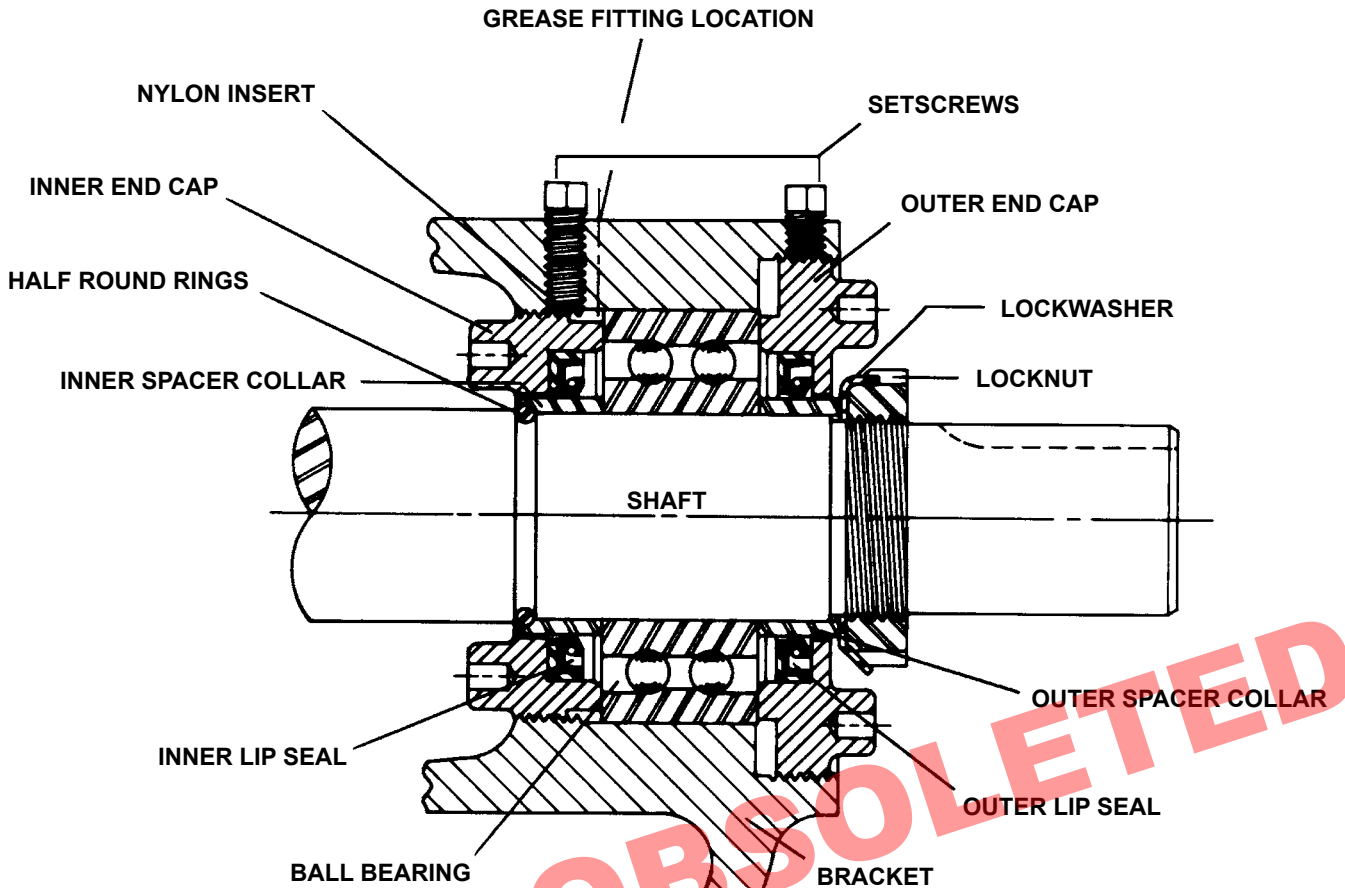

FIGURE 5
8. Loosen four setscrews over the inner and outer end caps. Remove both end caps with lip seals, spacer collars and ball bearing. Refer to Figure 5, page 11.
Place pair of half round rings on shaft and slide inner bearing spacer collar over half round rings to lock them in place. There is no pair of half round rings on Q, QS and M size pumps. **Refer to Figure 5, page 5.**
- Press lip seal, lip facing end of shaft, in inner end cap and insert end cap through shaft end of bracket. Turn end cap clockwise, looking at shaft end, until it engages threads. End cap spanner wrench holes must be facing rotor. Turn end cap with spanner wrench until it projects slightly from opening on side of bracket. End cap must not be turned so far that lip seal drops off end of spacer collar on shaft or end cap becomes disengaged from threads. **Refer to Figure 5, page 5.**
- Press lip seal, lip facing end of shaft, in outer end cap and insert end cap in bracket. Turn end cap in bracket until it is tight against bearing. **Refer to Figure 5, page 5.**
- Put lockwasher and locknut on shaft. Insert length of hardwood or brass through port opening between rotor teeth to keep shaft from turning. Tighten locknut to 120-150 ft.-lbs. Torque (LS) or 170-190 ft.-lbs. Torque (Q, QS, M). Bend one tang of lockwasher into slot of locknut. If tang does not line up with slot, tighten locknut until it does. Failure to tighten locknut or engage lockwasher tang could result in early bearing failure and cause damage to rest of pump.